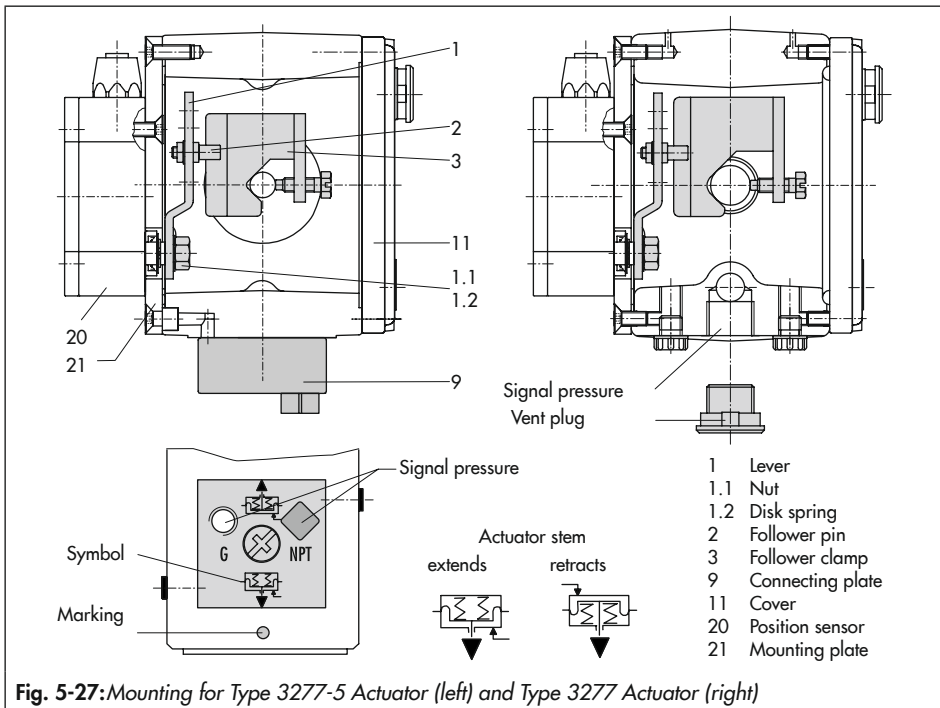

Fig. 5-27: Mounting for Type 3277-5 Actuator (left) and Type 3277 Actuator (right)
Type 3277-5 Actuator with 120 cm² (Fig. 5-27)
The signal pressure from the positioner is routed over the signal pressure connection of the connecting plate (9, Fig. 5-27 left) to the actuator diaphragm chamber. To proceed, first screw the connecting plate (9) included in the accessories onto the actuator yoke.
- Turn the connecting plate (9) so that the correct symbol for the fail-safe action "actuator stem extends" or "actuator stem retracts" is aligned with the marking (Fig. 5-27, below).
- Make absolutely sure that the gasket for the connecting plate (9) is correctly inserted.